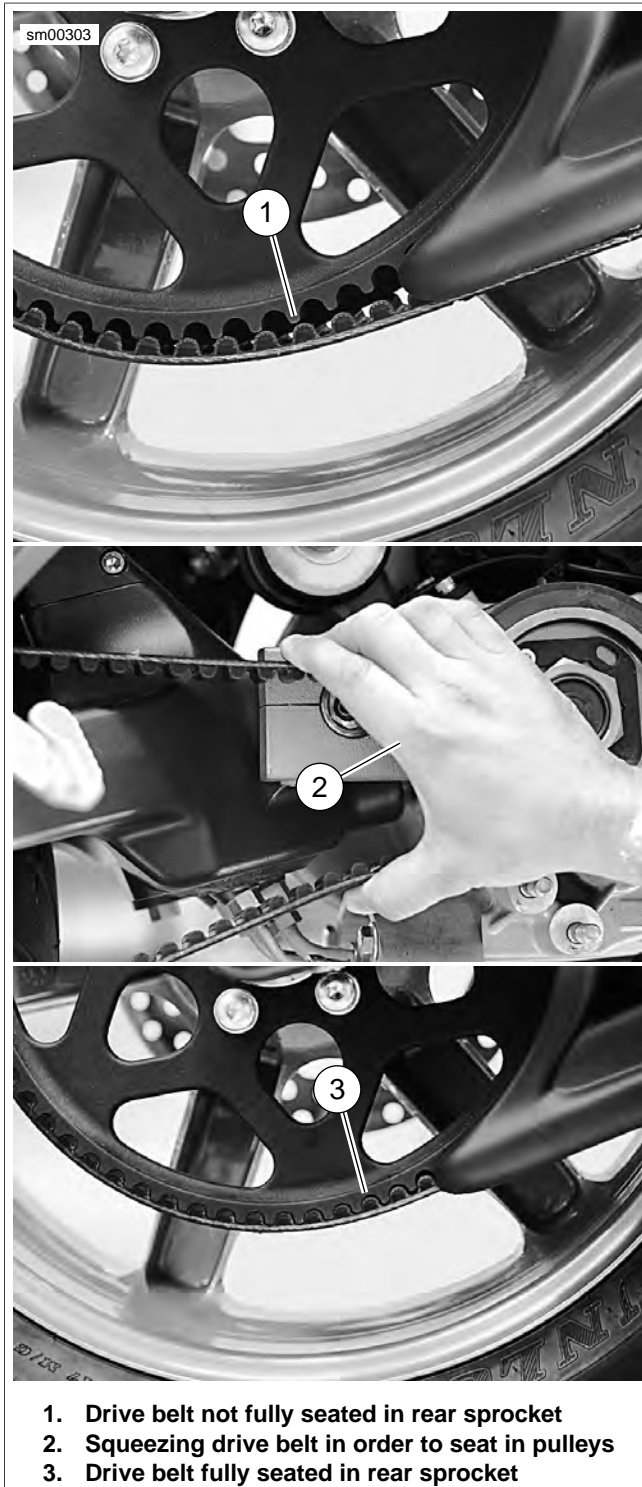

Figure 5-42. Seating Drive Belt Into Pulley Teeth
See Figure 5-42. Occasionally the drive belt is not fully seated in rear sprocket making it difficult to install the idler pulley. It will be necessary to follow the outlined procedure in order to easily install idler pulley.
3. See Figure 5-42. Grasp top and bottom of drive belt and squeeze together until belt teeth are fully seated in rear sprocket.